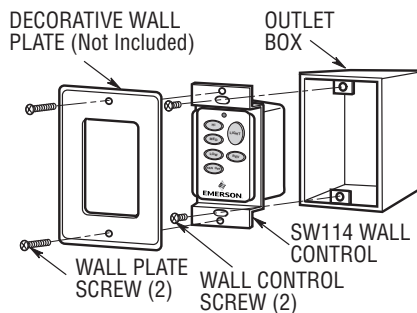

Figure 21
3. Install the wall control onto the outlet box using the supplied screws (Figure 21).
4. Install decorator wall plate (not included) using the two screws provided with wall plate (Figure 21).